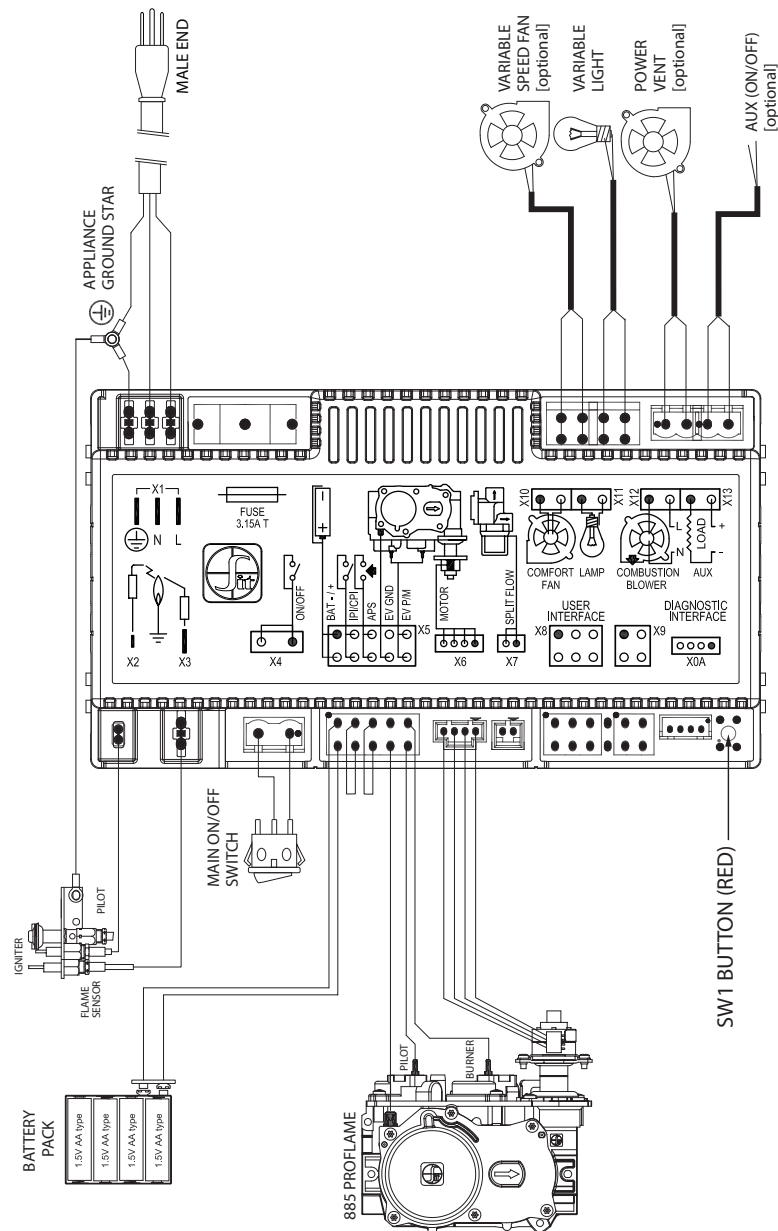

Figure 9.1, Wiring Schematics
9. Plug the fan cord into the receptacle on the IFC control module. See Section Figure 9.1, Wiring Schematics on page 43.